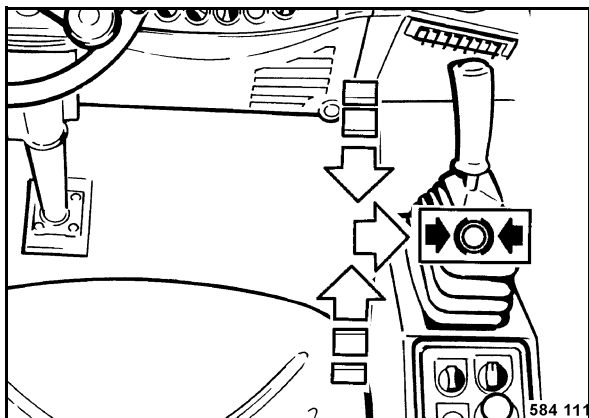

Fig. 56
- Return the travel lever (Fig. 56) slowly to "neutral"-position and engage it to the right in braking position.